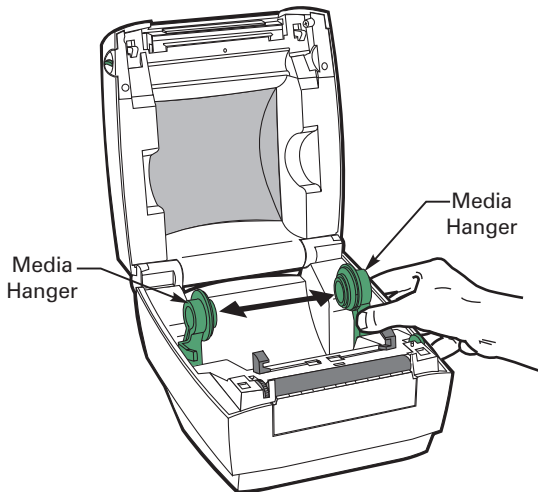

Figure 4
2. Separate and hold open the media hangers (refer to Figure 4).